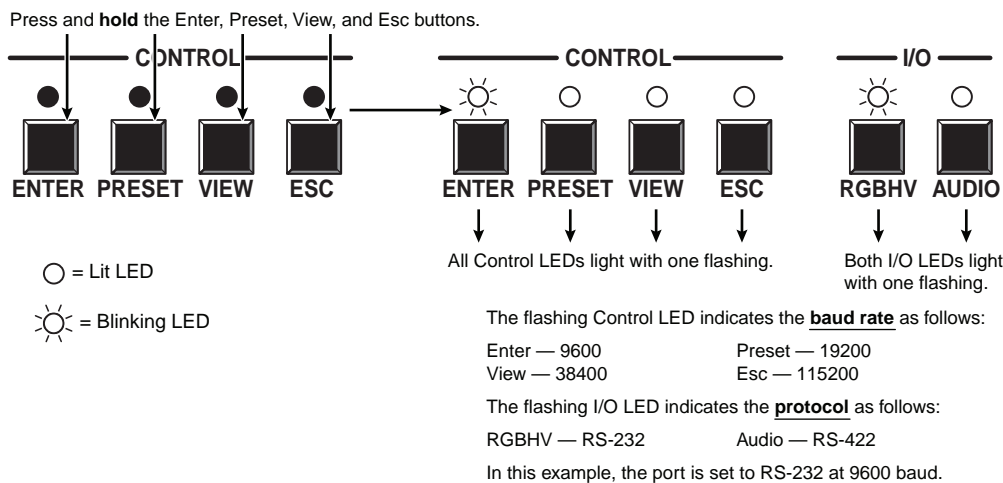

Figure 3-59 — RS-232/RS-422 and baud rate display
1. To enter *Serial Port Configuration* mode, simultaneously press and **hold all** Control buttons (Enter, Preset, View, and Esc) (figure 3-59).